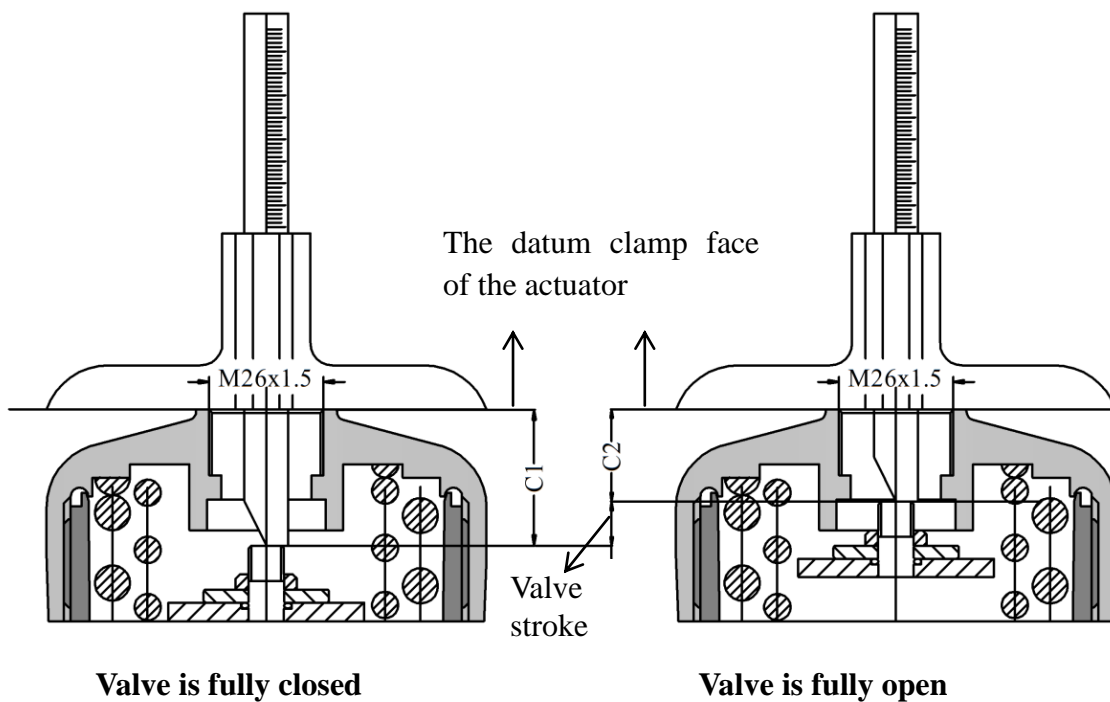

Figure 38. C1 value and C2 value measurement
①	Sensor	1	Feedback the valve opening position
②	Mounting plate	1	Connect the positioner and the actuator
③	O-ring	2	Φ20×2
④	Fastener	2	Fix the mounting plate, G1/4 Thread
⑤	M8 hexagon head bolts	4	M8×16
⑥	Sensor connector	1	Connect the sensor to the positioner
- Separately measure the C1 value when the valve is fully closed and C2 value when the valve is fully open by **the depth ruler**. The values are the distance between the stem top and the datum clamp face of the actuator. As shown in Figure 38.